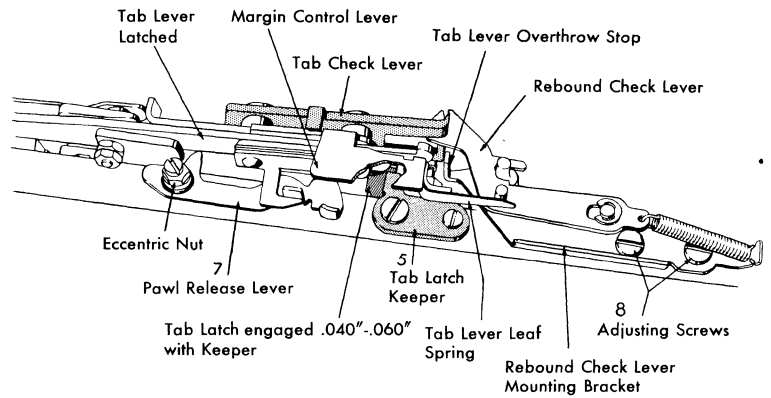

Figure 44. Tab Latch Keeper Adjustment
when the tab lever is held out by the keeper (Figure 44).
the pawl release lever for $\frac{1}{4}$ " escapement pawl clearance during tabulation (Figure 44). Observe this clearance by latching the tab lever by hand, preventing carriage movement, and sighting along the escapement rack.
9. Form the tab lever extension so that, with the tab cam at its high point, the extension has .000\"-.005\" (paper clearance) with the tab lever overthrow stop on the rebound check lever bracket (Figure 44).